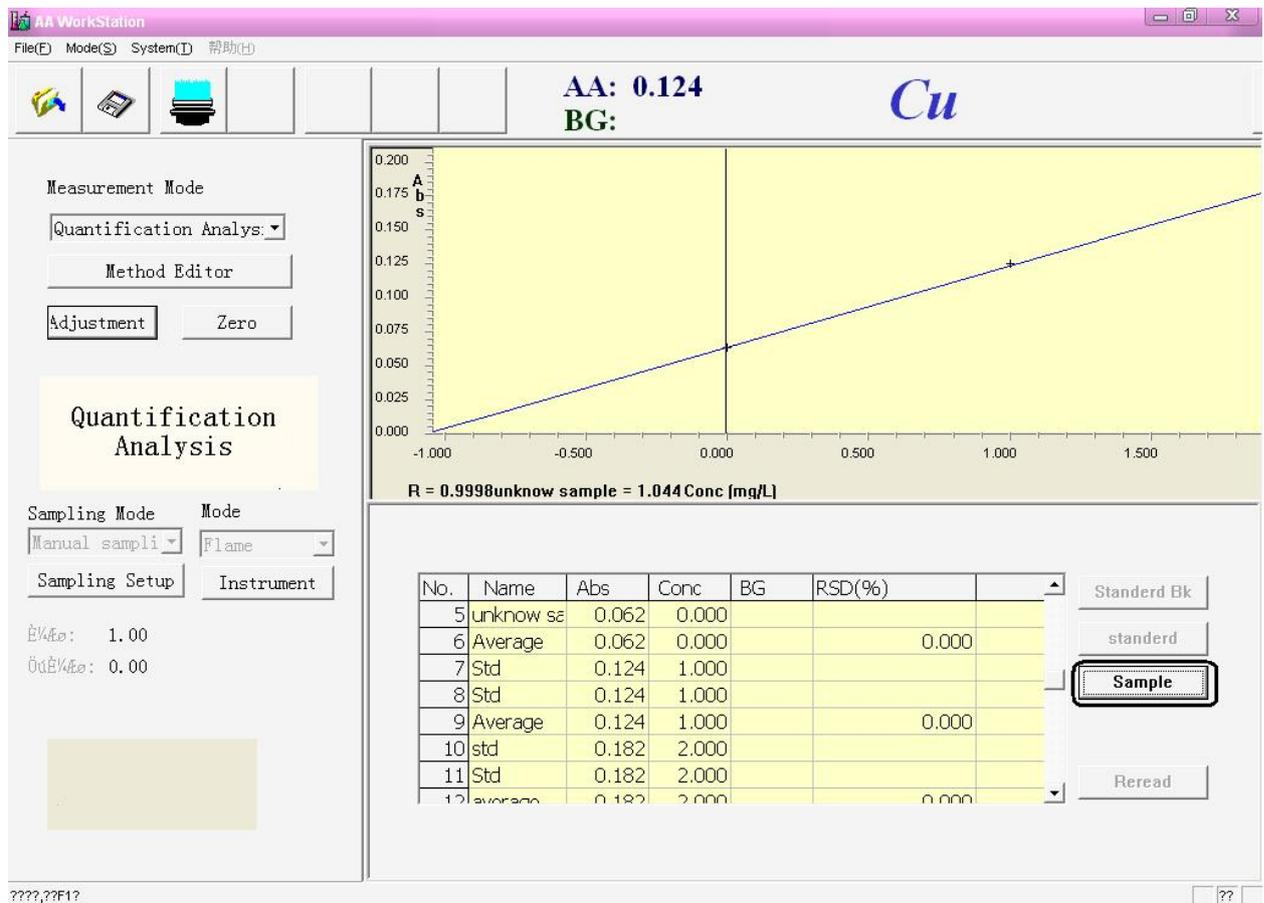

Figure 5-29
9. Start testing other samples, the method is the same as the unknown sample testing, figure 5-29